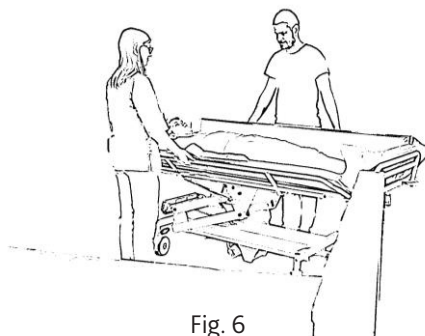

Fig. 6
17. Move the Coral shower trolley away from the bed and fold up the Coral shower trolley's side rail on the side of the transfer (see Figure 6).
4. Fold down the Coral shower trolley's side rail on the side of the transfer, towards the bed. (See Fig. 6).